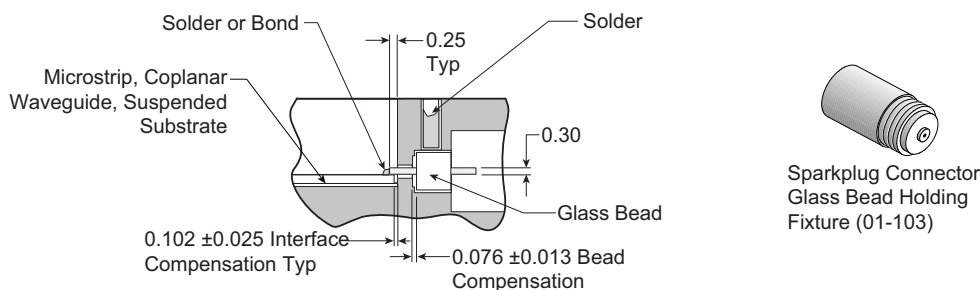

Figure 4-3. K102F-R Glass Bead Assembly
1. Install the microstrip into the housing (see Figure 4-3 for dimensional tolerances around the glass bead).
3. Apply flux to the glass bead and insert it, long-end first, into the 01-103 Glass Bead Holding Fixture (Figure 4-3).